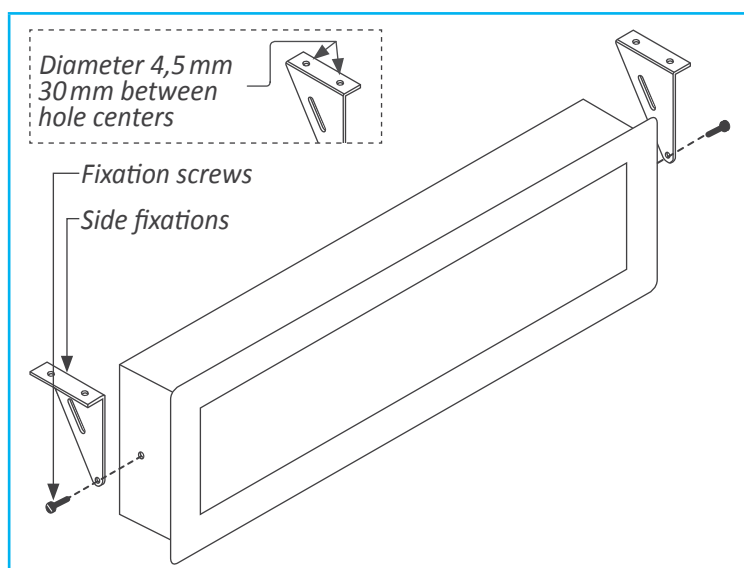

Figure 9 - Hanging mount
- Hanging mount. Mount the side fixations as shown (see Figure 9). Each fixation has 2 holes with 4,5 mm diameter and a separation between hole centers of 30 mm. Instrument can be hanged using cable, threaded rod,